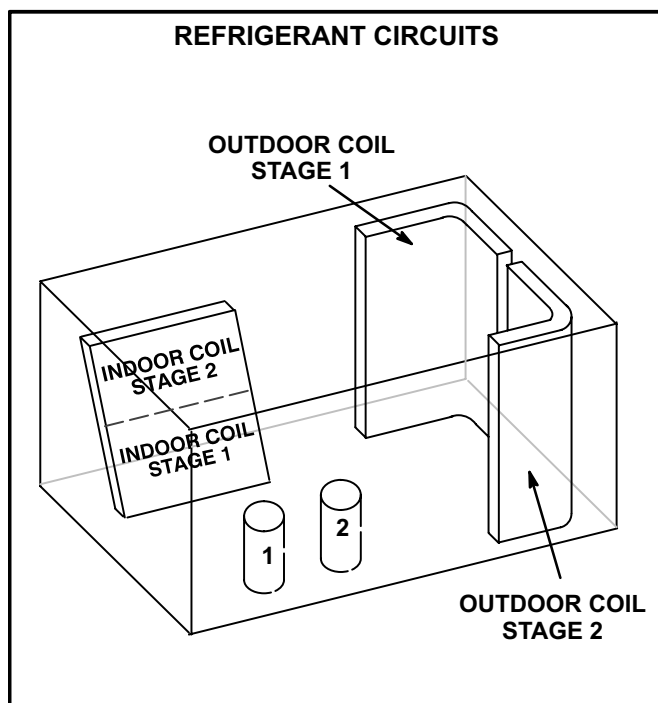

FIGURE 11
- 3- Units contain two refrigerant circuits or systems. See figure 11.